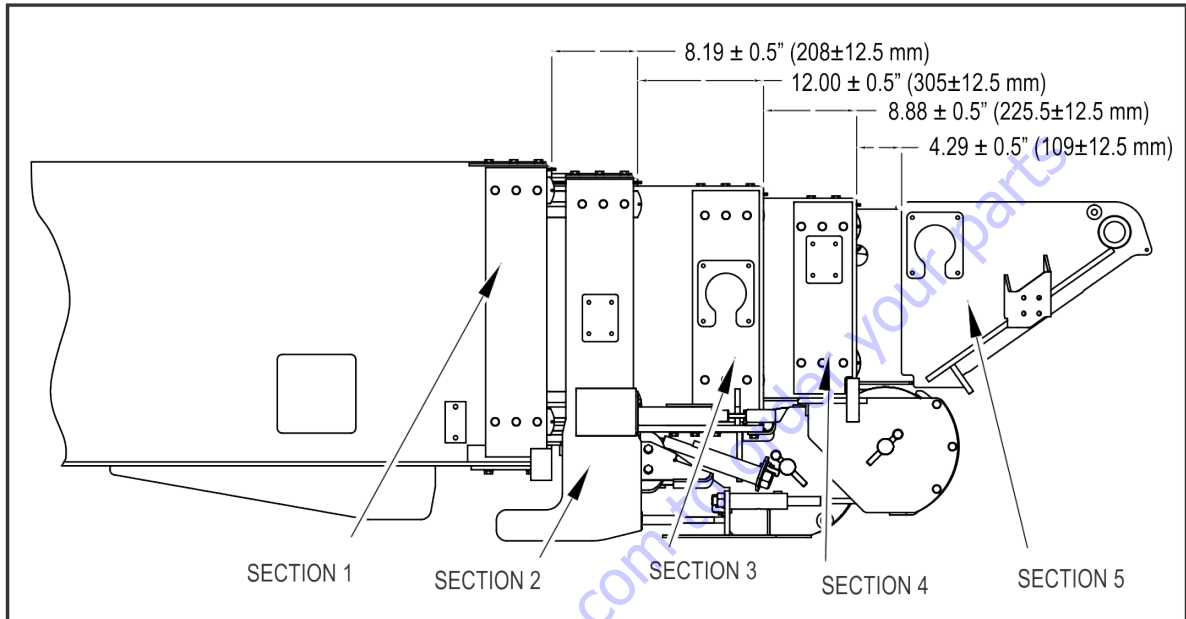

Figure 4-42. Fully Retracted Boom Section Positions
If new wire ropes are installed, there is a general starting point for the initial exposed thread length for each wire rope adjuster stud. Refer to Figure 4-42., Fully Retracted Boom Section Positions for these dimensions. The proper position of the boom sections (See Figure 4-42.) must be achieved with wire rope equalized on both sides of the sheaves and ropes properly seated in sheave grooves prior to tensioning. This will allow for proper tensioning of the wire ropes.
1. Before making any adjustments, confirm the boom assembly is in the fully retracted position (See Figure 4-42., Fully Retracted Boom Section Positions).
2. Take preliminary measurements of the position of each boom section with the boom in the fully retracted position and compare them to Figure 4-42., Fully Retracted Boom Section Positions.
3. If the measurements fall within tolerance shown on Figure 4-42., proceed to the Wire Rope Tensioning Procedure.
4. If the measurements do not fall within the tolerances in Figure 4-42., adjust the position using the re-position procedures in this sub-section
1. If Boom Section #3 falls within the dimension and tolerance shown in Figure 4-42. with the boom fully retracted, proceed to Boom Section #4 Repositioning procedure in this section.
2. If Boom Section #3 does not fall within the dimension and tolerance shown in Figure 4-42. with the boom fully retracted.
3. If the Section needs to be RETRACTED (measured dimension is greater than dimension shown in Figure 4-42.):
4. If the Section needs to be EXTENDED (measured dimension is less than dimension shown in Figure 4-42.):
6. Verify that the exposed boom section dimensions meet the dimension and tolerance of Figure 4-42.
- a. If Section #3 still does not fall within the dimension and tolerance of Figure 4-42., repeat the steps outlined in 3. Boom Section #3 Repositioning.
- b. If Section #3 does fall within the dimension and tolerance of Figure 4-42., proceed to 4. Boom Section #4 Repositioning.
1. If Boom Section #4 falls within the dimension and tolerance shown in Figure 4-42. with the boom fully retracted, proceed to Boom Section #5 Repositioning procedure in this section.
2. If Boom Section #4 does not fall within the dimension and tolerance shown in Figure 4-42. with the boom fully retracted, perform the following procedure:
- 4.** If the Section needs to be EXTENDED (measured dimension is less than dimension shown in Figure 4-42.):
- 6.** Verify that the exposed boom section dimensions meet the dimension and tolerance of Figure 4-42.
- a.** If Section #4 still does not fall within the dimension and tolerance of Figure 4-42., repeat the steps outlined in 4. Boom Section #4 Repositioning.
- b.** If Section #4 does fall within the dimension and tolerance of Figure 4-42., proceed to 5. Boom Section #5 Repositioning.
1. If Boom Section #5 falls within the dimension and tolerance shown in Figure 4-42. with the boom fully retracted, proceed to Wire Rope Tensioning procedure in Section 6 of this document.
2. If Boom Section #5 does not fall within the dimension and tolerance shown in Figure 4-42. with the boom fully retracted, perform the following procedure:
6. Verify that the exposed boom section dimensions meet the dimension and tolerance of Figure 4-42..